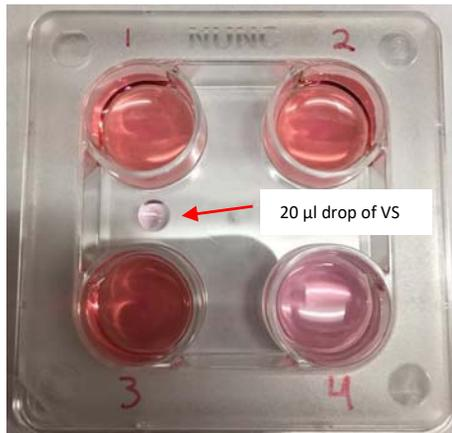

Figure 2. Vitrification Dish
Preparation of Vitrification Solution (VS) (prepared in vitrification dish (Figure 2))
Preparation of Vitrification Dishes (see Figure 2)
2. Make a 15-20 μL drop of VS (medium from well 4) close to the center, right or left side on the vitrification dish as shown in figure 2 as convenient (*We recommend making the drop as shown in Figure 2 for right-handed practitioners*).